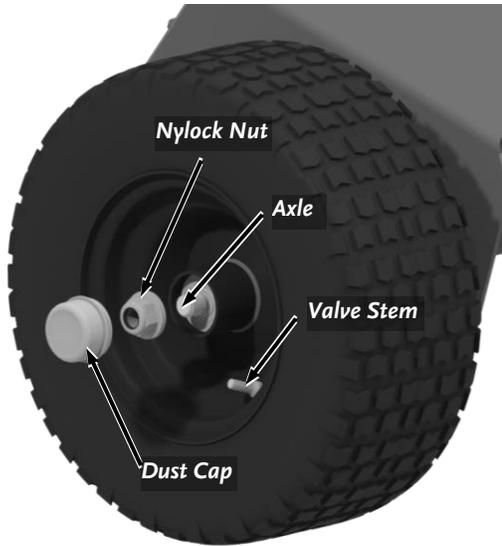

Figure 20
1. With the Stump Grinder on the ground, remove the Dust Cap with a Pry Bar and a Dead Blow Hammer (**Figure 20**).